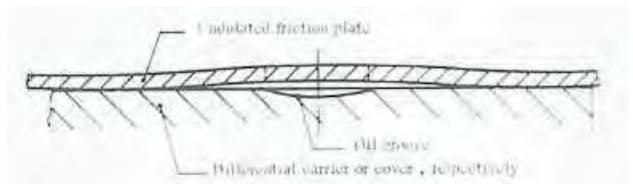

Fig. 10
- b. The plate undulation should be so arranged that a free space exists between the oil groove in the base of the differential carrier or the differential cover, respectively, and the mating friction plate (see Fig. 10).